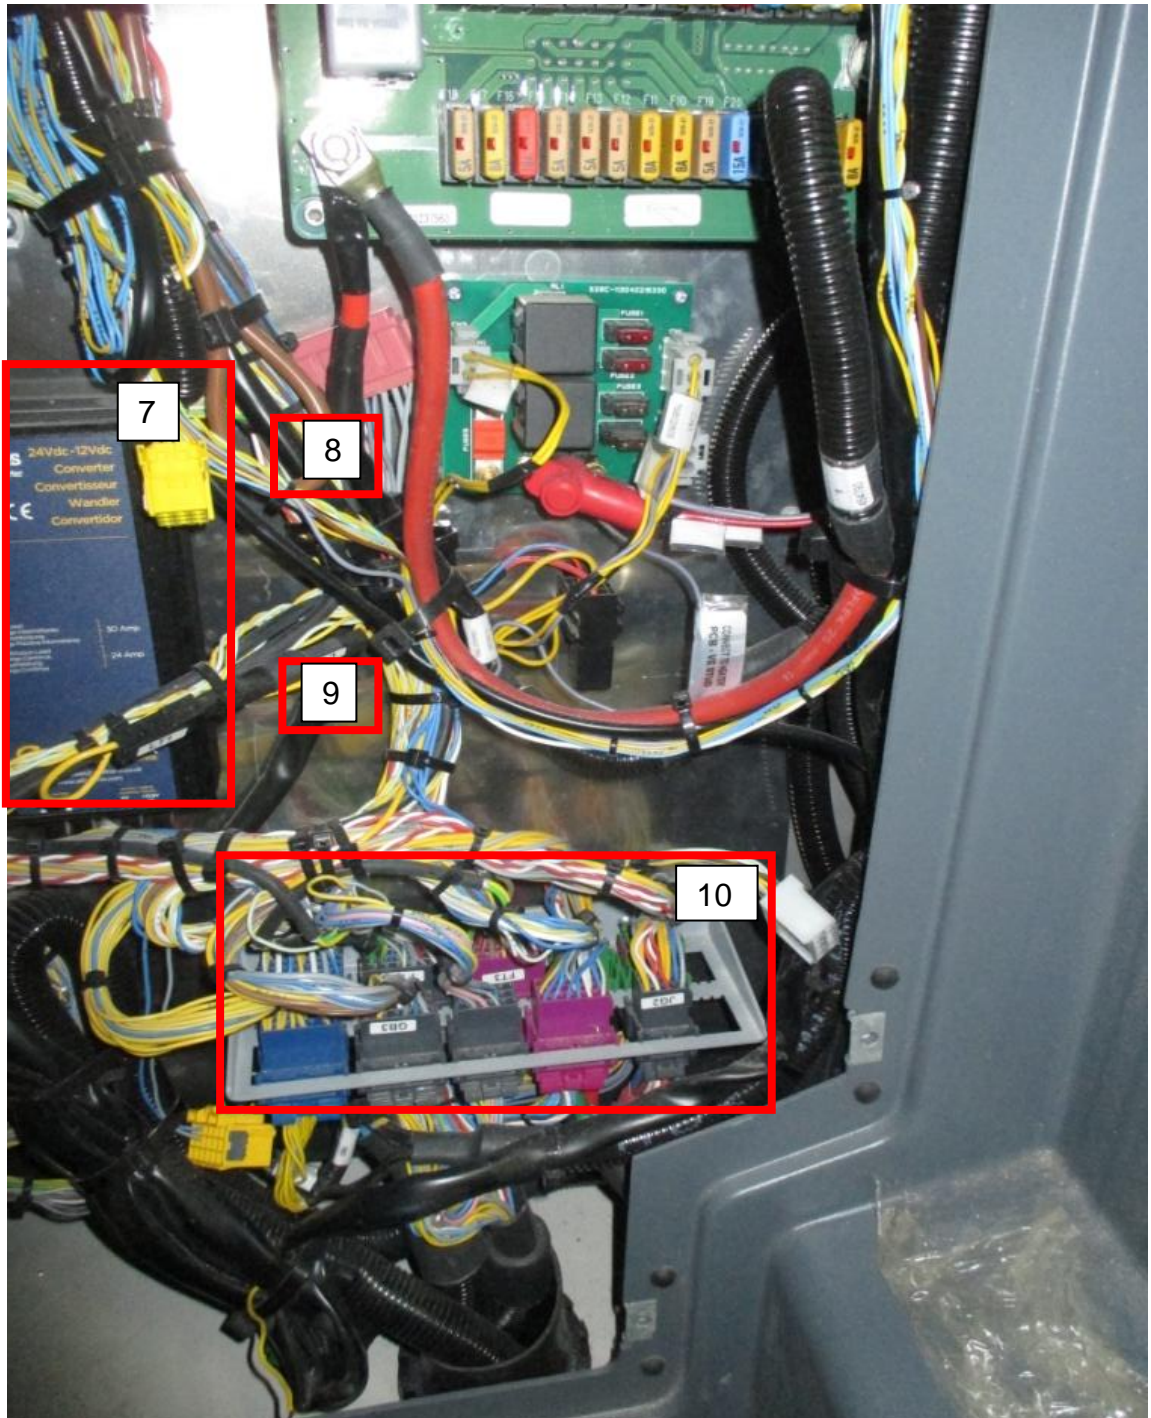

Figure 5: Connection points.
6. Remove the components shown in Figure 5 from the EDC. Retain hardware for re-use.
- a. Remove the voltage converter by removing the three screws securing it. Refer to Figure 5 item 7 for item location.
- b. Remove the two tie wrap mounting bases to the street side of the voltage converter by removing the single screws securing them. Refer to Figure 5 items 8 and 9 for item location.
- c. Remove the EDC connector bracket by removing the two screws securing it. Refer to Figure 5 item 10 for item location.